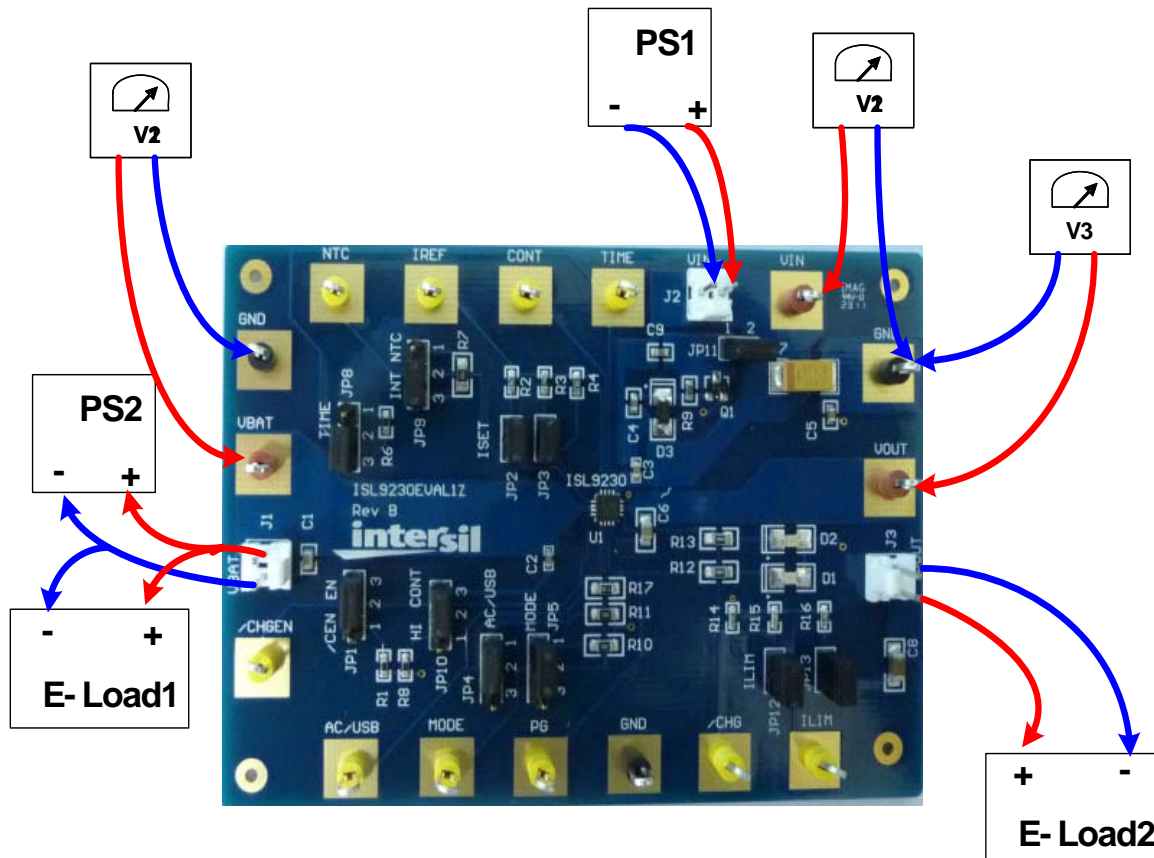

FIGURE 1. CONNECTION OF INSTRUMENTS
## Quick Setup Guide (Refer to Figure 1)
- Step 1: Connect a 5V supply PS1 capable of delivering 1.5A current (see Figure 1)
- Step 2: Connect a 3.7V supply PS2 with current capability 1.5A (see Figure 1)
- Step 3: Connect voltmeters V1, V2 and V3 to monitor VIN, VBAT and VOUT (see Figure 1)
- Step 4: Connect a 2nd DC electronic load at CC mode, E-load 2 (see Figure 1)